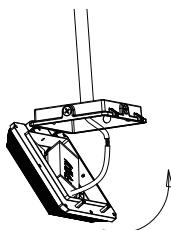
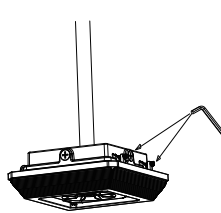

Fig.1-6
Fig.1-7
6. Close the hinged lens assembly and tighten the 2 allen screws securely (Fig.1-6 and Fig.1-7)